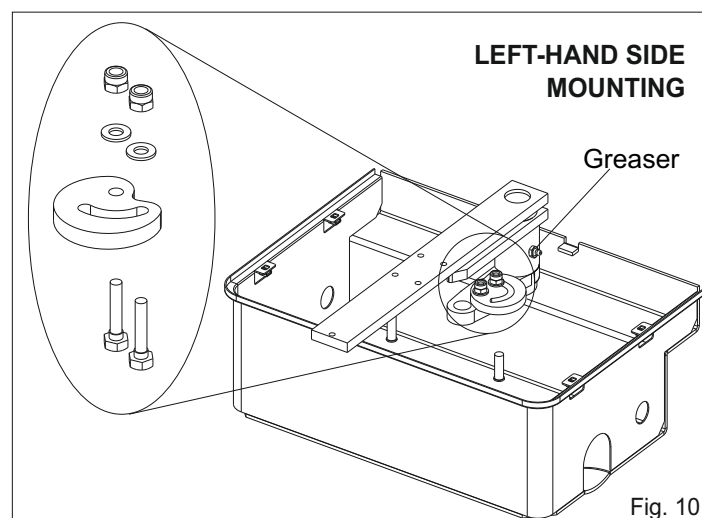
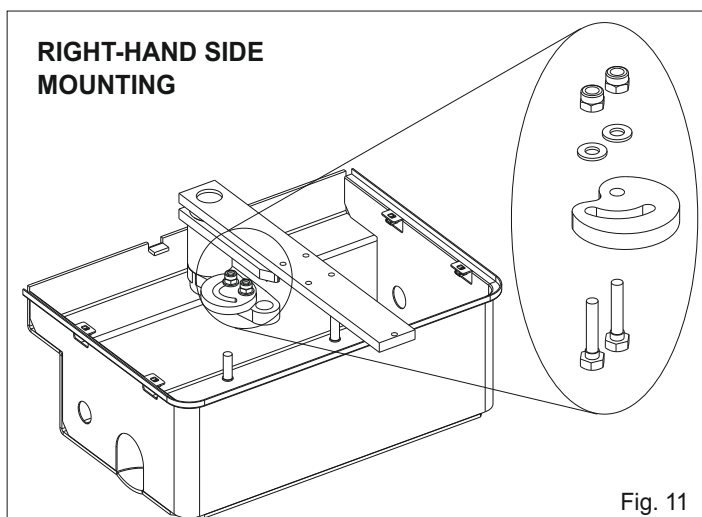

Fig. 10
Fig. 11
2.7. Insert the cam of the limit switch into the handle bar and fix it with the special screws (left-hand side mounting Fig. 10, right-hand side mounting Fig. 11)
When putting in function the installation it is peremptory to lubricate the box as in Fig. 10 until the grease comes out. (Use grease type DIN 51502 KP 2 N-20 - K 2 K-20).